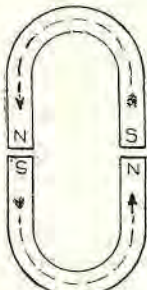

Fig. 4
Fig. 4. Two sets of dry cells connected in "parallel," each set connected in "series," similar to pails of water placed and connected as shown, to increase the capacity to two cells and the voltage to three cells.
Where dry cells are used for ignition, it is advisable to use two sets of 5 or 6 cells connected in "series." One set is used for a while, then the other set. If both sets give out, as an emergency, connect the two sets in "series-parallel" as shown in Fig. 4.
or steel. See Fig. 4 and note how one magnet will induce magnetism into another magnet if unlike poles are placed together so the lines-of-force will flow from (N) to (S).